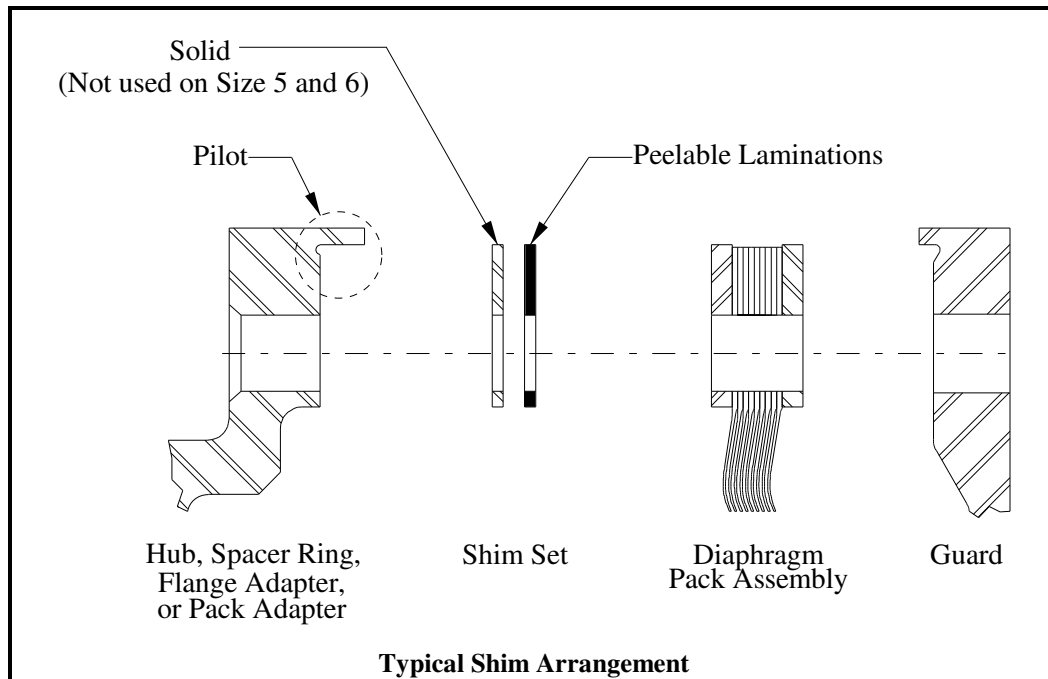
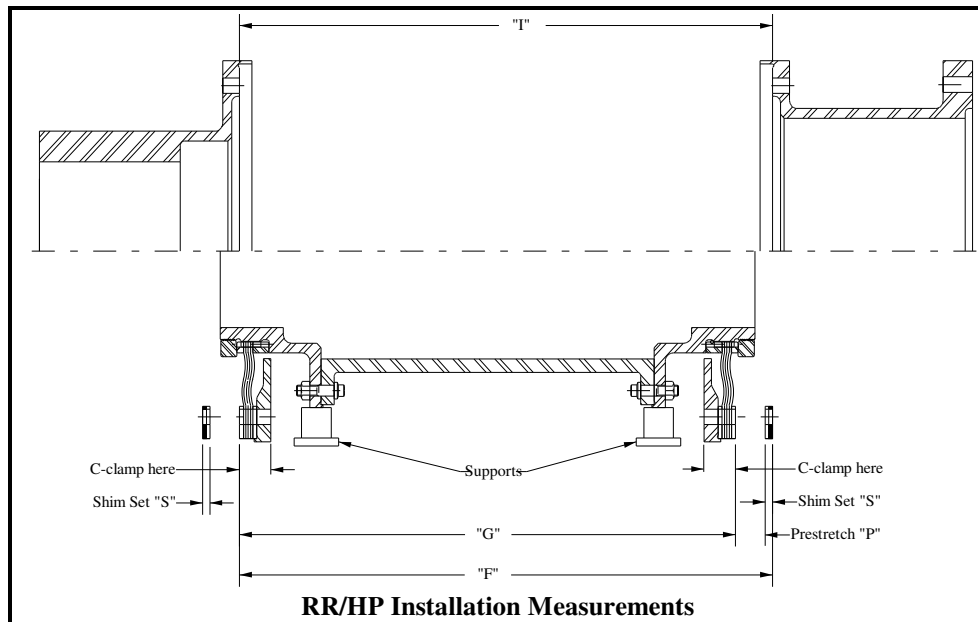

Figure 4-6
Figure 4-7
Shims are provided to adjust the length of the coupling at installation to accommodate variations in flange-to-flange dimensions ("I" dimension as shown in Figure 4-7 through 4-10) within the limits specified on the Ameridrives sales drawing. The coupling spacer is intentionally made short by the thickness of one shim set. This allows for flange-to-flange adjustability equivalent to the thickness of one shim set in either direction. Two shim sets are normally provided (see Figure 4-6). Refer to the Ameridrives Sales Drawing for location and quantity of shims.
4.4.1.1 Measure and record, on the worksheet in Paragraph 4.4.5, the installation Length "I" (distance between mounted flange faces) at four (4) places approximately 90° apart (see Figure 4-7).
4.4.1.2 Assemble the diaphragm pack sub-assemblies onto the spacer taking care to re-align the matchmarks and end identification letters. Install a minimum of four (4) bolts approximately 90° apart through each flange and tighten the bolts evenly in a criss-cross pattern to seat the pilots. Support as shown in Figure 4-7.
4.4.1.4 Measure and record, on the worksheet in Paragraph 4.4.5, the coupling free length "G" (distance between diaphragm pack sub-assembly outer diaphragm pack faces) at four (4) places approximately 90° apart. It is recommended that C-clamps be used to compress the diaphragm pack at the location the measurements are being taken (see Figure 4-7).